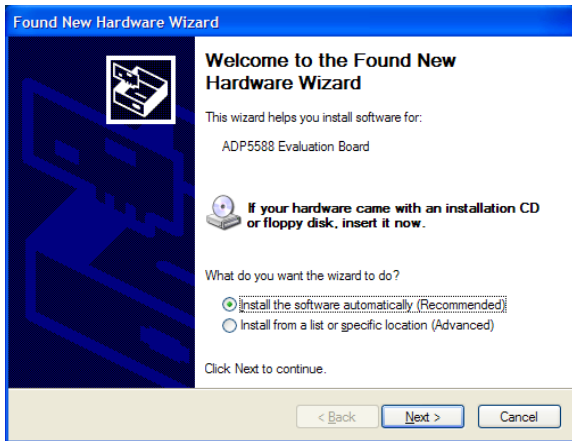

Figure 20. Software Location Installation
2. The screen in Figure 20 then appears. Choose **Install the software automatically (Recommended)** and click **Next >**.